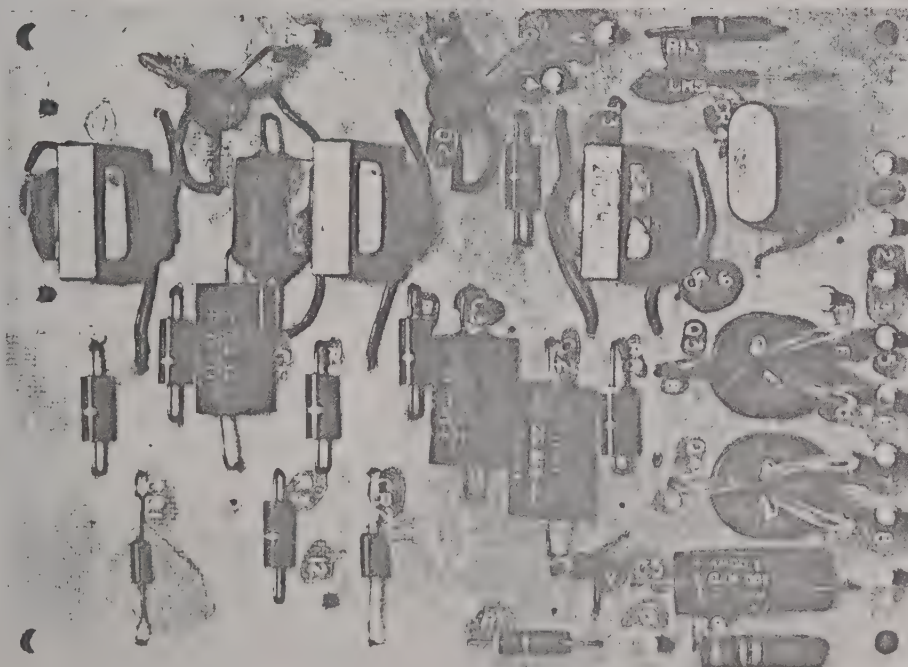

Figure 8. Amplifier Oscillator, Component Location
7.1 GENERAL. During trouble shooting refer to figure 9, a schematic wiring diagram of the Strain Indicator. Figure 8 shows the location of the major components of the amplifier, oscillator and phase sensitive detector.
b. If after performing step "a", the meter indication is still abnormal, use figures 8 and 9 to check amplifier and measuring circuit. During this procedure note the following flow sequence of the Indicator.